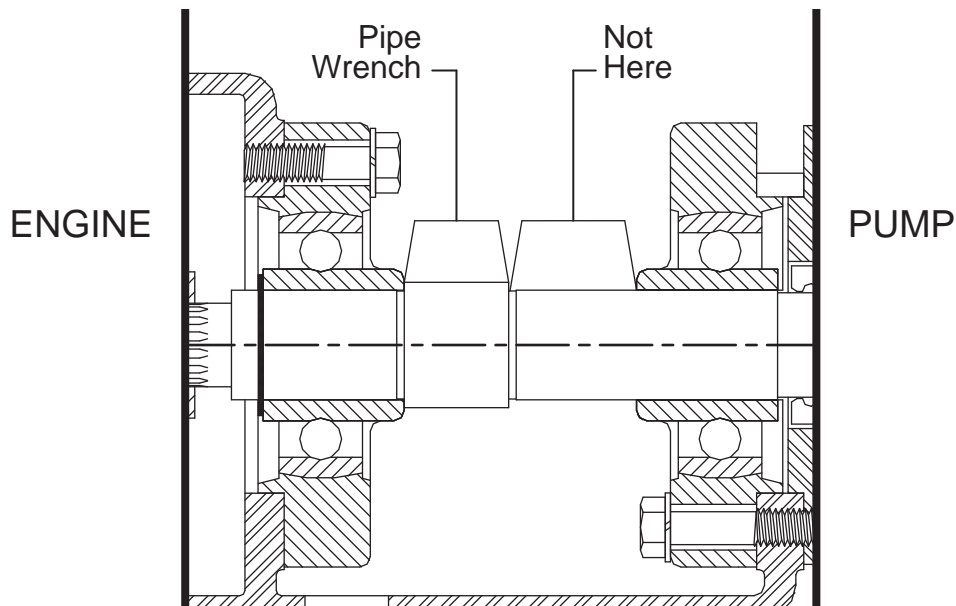

Figure 7 – Pump Impeller Removal
3. To remove pump impeller, take the pump impeller wrench, which is stored in the tool box, and position it so that the hole is aligned with any of the eight tapped holes in the front of the pump casing (4). The 90-degree leg of the pump impeller wrench should face inward, toward the pump impeller and be positioned between any two of the pump impeller fins. Bolt the wrench securely in place with one of the pump suction cover bolts (5B). Using a pipe wrench on the pump shaft (9), unscrew the pump impeller, turning the pump shaft in a clockwise direction. See Figure 7 for pipe wrench placement. Be careful not to unscrew the pump impeller too far before removing the impeller wrench.